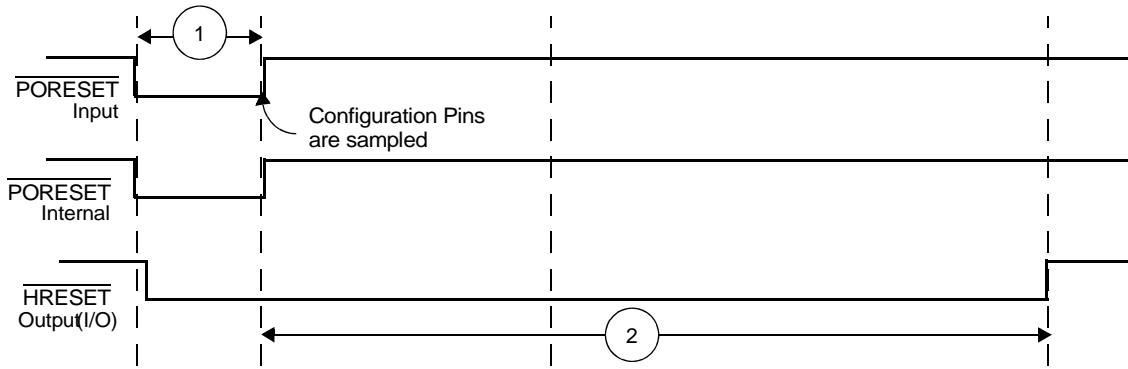

Figure 4. Timing Diagram for a Reset Configuration Write
**Table 17** and **Figure 4** describe the reset timing for a reset configuration write.